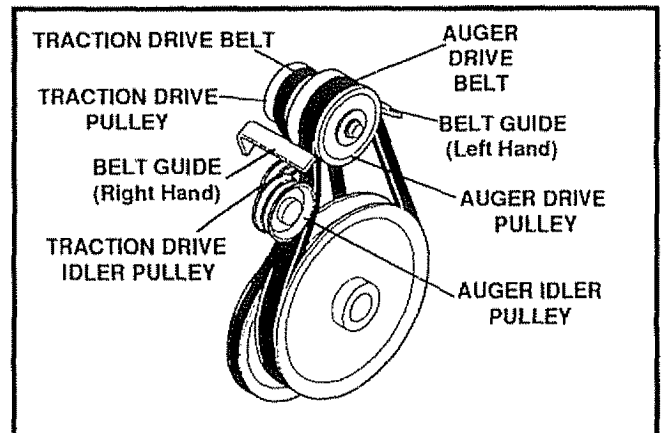

FIG. 29
- Loosen the belt guides (See Fig. 29) and pull away from the engine drive pulley
- Loosen belt guides (See Fig. 29) and pull belt guides away from the engine drive pulley.